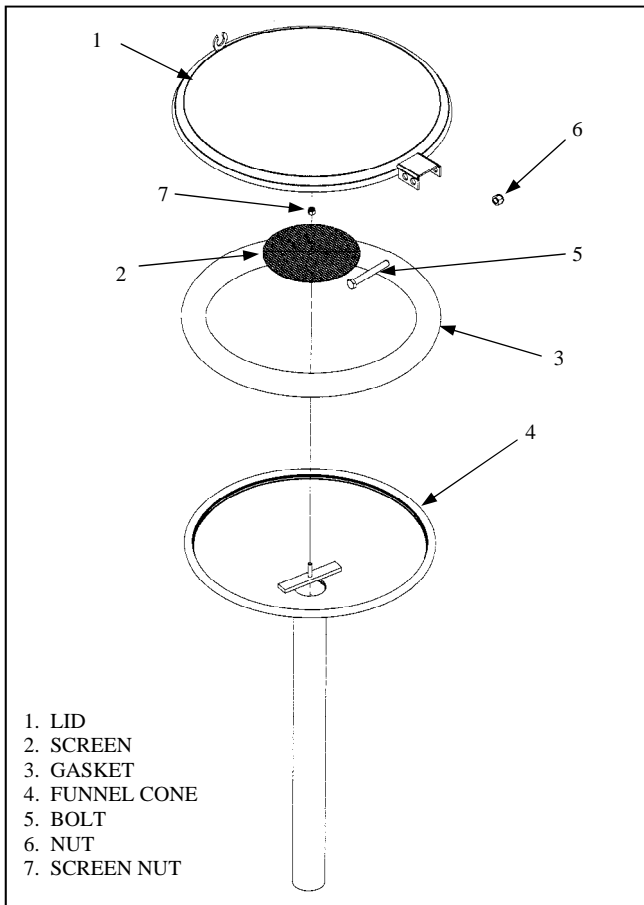

Figure 5-9. Funnel Section Assembly
5.3.7.1 **Funnel Cover Assembly.** See Figure 5-9. The funnel cover (1) is removed by removing nut (6) and bolt (5).
5.3.7.2 **Funnel Gasket.** See Figure 5-9. The funnel gasket (3) is replaced by opening funnel cover (1). Remove damaged gasket and install new one.
5.3.7.3 **Funnel Screen.** The funnel screen (2), prevents FOD from entering the tank. The screen is replaced by opening the funnel cover and removing nut (7). Replace screen and reinstall nut. See Figure 5-9.